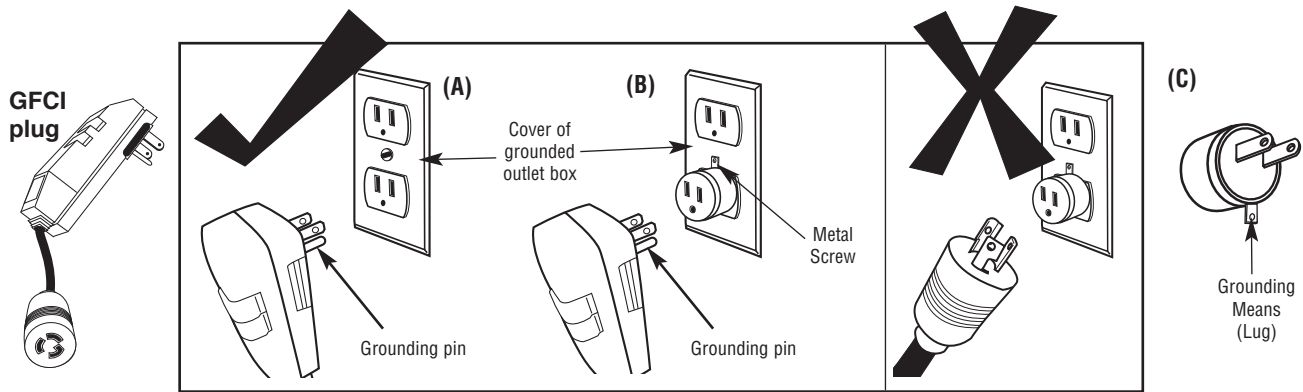

Figure 2
7. This saw is intended for use on a circuit that has an outlet that looks like the one illustrated in Figure 2. The GFCI plug used on the saw has a grounding plug that looks like the plug illustrated in Figure 2(A). A temporary adaptor, which looks like the adaptor illustrated in Figures 2(B) and 2(C), may be used to connect the GFCI plug to a
2-pole receptacle, as shown in Figure 2(B), if a properly grounded outlet is not available. The temporary adaptor should be used only until a properly grounded outlet can be installed by a qualified electrician. The green-colored rigid ear, lug, etc., extending from the adaptor must be connected to a permanent ground, such as a properly grounded outlet box.